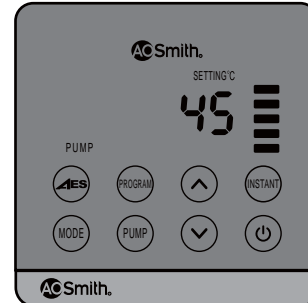

Figure 15
6. Pump circulation (Figure 15)